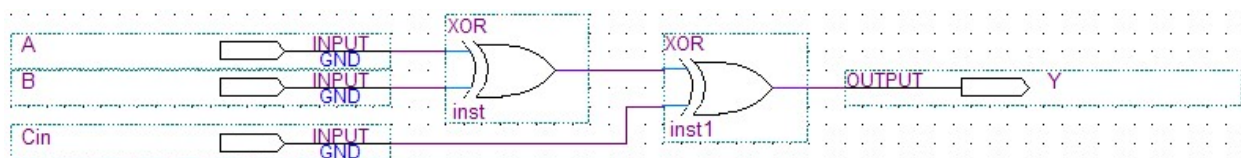

Figure 4. Schematic for sum logic
From the truth table, we now want to implement our design using logic gates. The sum output (S) can be produced from the inputs by connecting two 2-input XOR gates as shown in Figure 4. You should convince yourself that this circuit produces the outputs for S as given in the table.
Use the Orthogonal Node Tool () to wire the gates together. Click and drag to connect the pins to gates and the two gates together. At this point, your schematic should resemble Figure 4. It's a good idea to click on the wire between the two XOR gates and give it a unique name such as *n1* or *mid* in case you need to debug later. (If you are using version 10 or higher, you can name a wire by right clicking on the wire, selecting Properties, and adding the name).